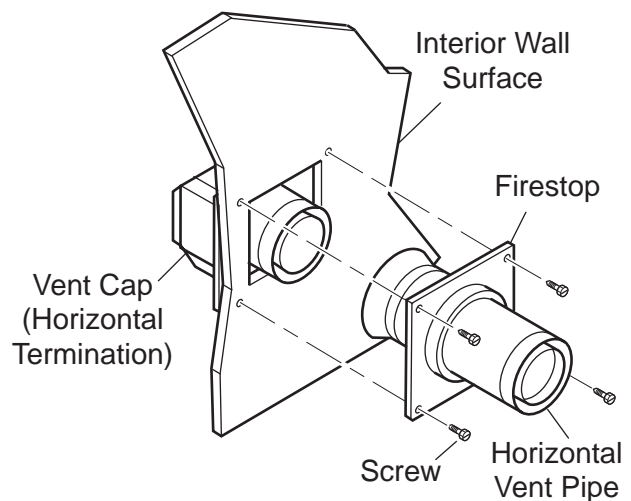

Figure 19 - Installing Firestop on Horizontal Vent Pipe
5. Slide the firestop over the vent pipe before connecting the horizontal run to the vent cap. See Figure 19.
7. Slide the firestop against the interior wall surface and attach with screws. See Figure 19.